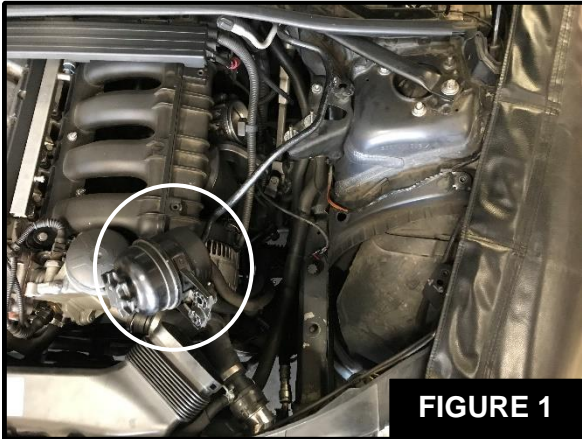

FIGURE 1
Step 6: For vehicles with the steering pump located above the factory intake tube, remove the two (2) factory nuts and keep for later use (5).
Step 7: Detach the factory air line from the reservoir's bracket (6).
Step 8: Carefully move the steering pump reservoir to the front of the engine, to allow for clearance. See Figure 1.